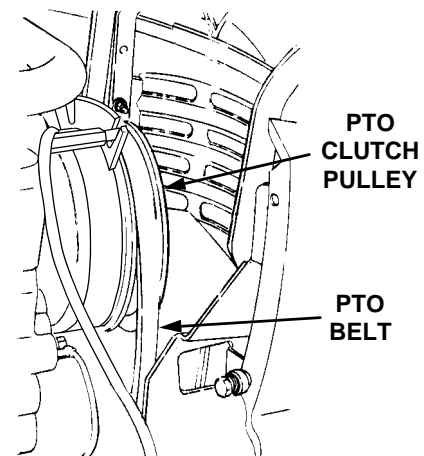

Figure 42
7. Open the tractor hood and remove the forward end of the PTO belt from the PTO clutch pulley on the front of the engine (See Figure 42).